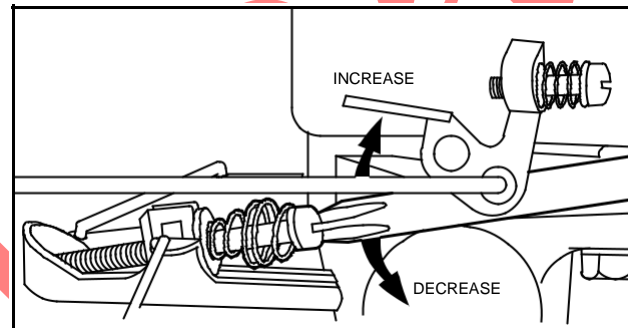

Fig. 30 – Top-No-Load Adjustment Screw
5. Turn Top-No-Load adjustment screw to obtain specified RPM, Fig. 30.